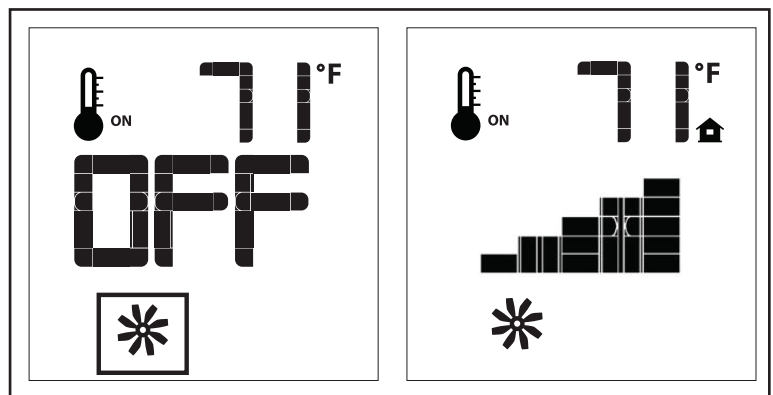

Figure 12: Fan Control
The NF30GI comes with a convection fan that can be controlled with the Transmitter. The fan speed can be adjusted through six (6) speeds. To control the fan press the MODE key (Figure 5) to index to the fan control icon (Figure 12). Use the UP/DOWN arrow keys to turn on, off, or adjust the fan speed (Figure 12). A single beep from the IFC will confirm the command has been received.